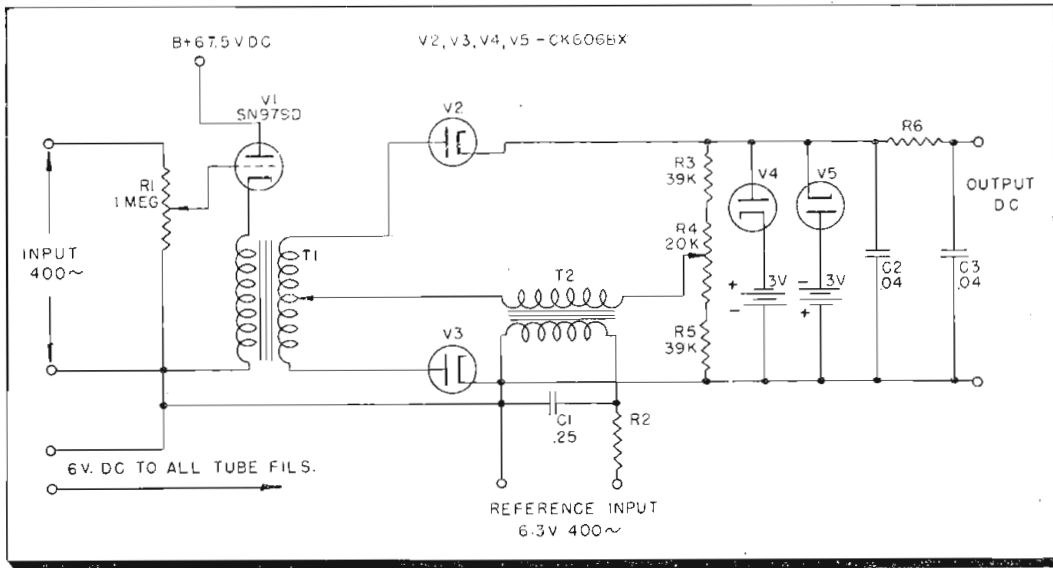

Fig. 5: Circuit of phase sensitive rectifier shown at position 1 on Fig. 1
type of intelligence no pickup is required. The voltage may be dc or ac, and it may be measured in volts or millivolts. If of suitable range, it will require no modification, and can be used directly or through a switch to modulate a subcarrier oscillator. Generally some modification is necessary and for this, one or more of the Group 4 devices may be used. If the intelligence is an ac source of which only the amplitude is of interest; the voltage rectifier plug-in unit shown at position (G) on Fig. 1 is used. If the phase is also important the unit shown at Position (I) is used. The circuit diagram is given on Fig. 5.